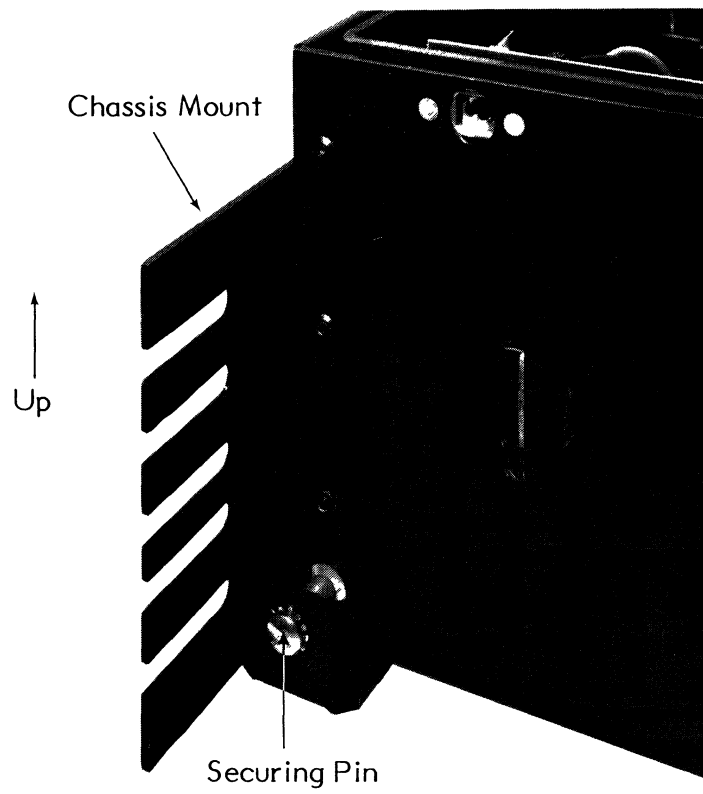

Figure 2-3. Securing the DSD 480 in a Rack
- 2) Slide the DSD 480 chassis on the mounts until the two bullets at the rear of the chassis mounts engage the corresponding holes in the rear of the chassis as shown in Figure 2-3.